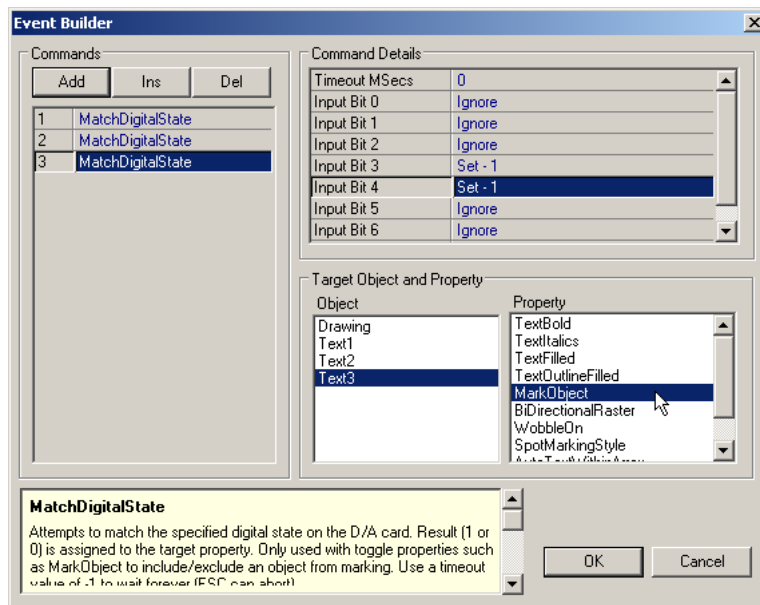

Figure 17-5 Event Builder dialog box for MatchDigitalState demo
- 10 Follow Steps 4 and 5 to add a third *MatchDigitalState* command, but set *Input Bit 3* to '*Set – 1*', set *Input Bit 4* to '*Set – 1*', select the third text object as the target object, and choose *Mark Object* as the target property. . The *Timeout Msecs* value should be set to '*0*'. At this point, the *Event Builder* should look similar to the view shown in *Figure 17-5* although your text object names may differ.